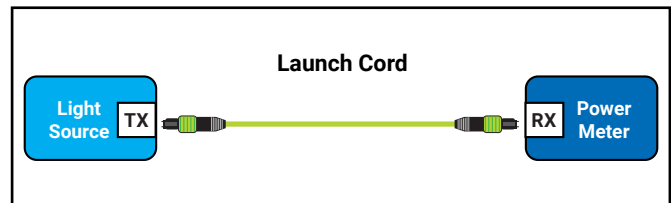

Figure 8a: Establish a reference
4. Connect the launch cord between the light source and the power meter (see Figure 8a).